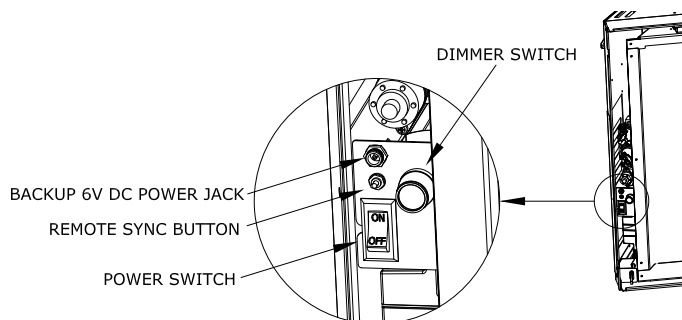

Figure 11.1 - Control Module Panel
- See the figure 11.1 & 11.2 on how to plug in the battery backup into the inlet port.